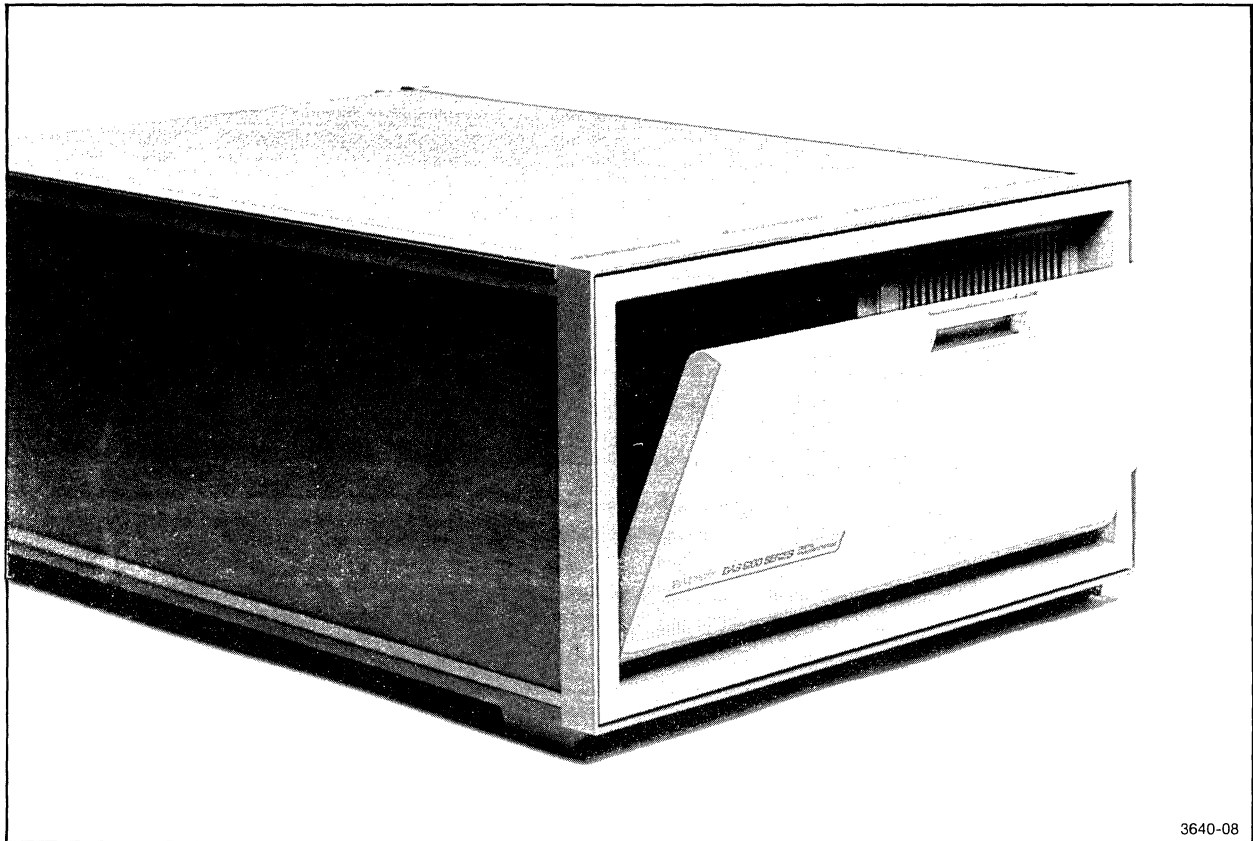

Figure 6-14. Lift the front edge of the keyboard 30°, then pull it away from the mainframe.
2. The rear keyboard frame rests on two metal bars (angled approximately 30°) inside the front molding. Each metal bar is anchored by two socket-head set screws. As shown in Figure 6-14, these screws are inside the mainframe, directly behind the bar assembly. Another socket-head set screw in the side, front casting permits adjustment of the keyboard's horizontal position by controlling how far the bar assembly recedes into the side casting.
5. Lift the front edge of the keyboard approximately 30° as shown in Figure 6-14. Pull the keyboard away from the mainframe a few inches. The keyboard cable will slide out of a slot beneath the screen.